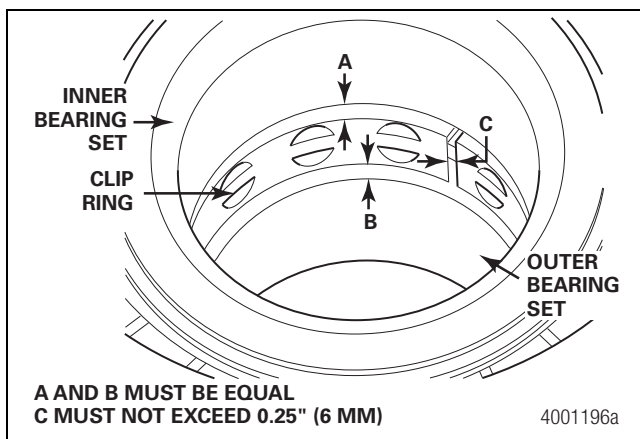

Figure 4.16
- A. The inner clip ring has not become dislodged in shipment and is in correct alignment with the inner and outer bearing sets and the clip ring must be equal. Figure 4.16.
- B. The gap between the ends of the clip ring must be equal and not exceed 0.25-inch (6 mm). If necessary, adjust by hand. Figure 4.16.